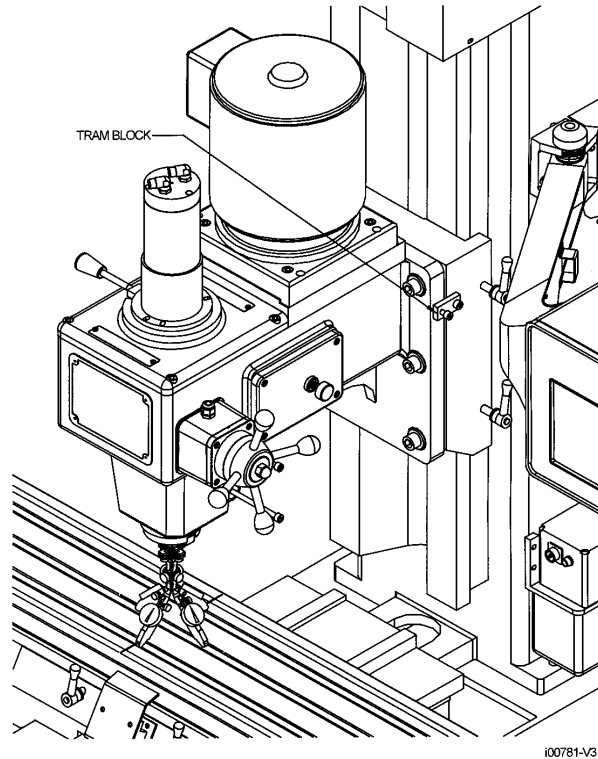

Figure 45
7. If the head is out of tram from side to side then loosen the 6 head bolts. An Allen wrench and breaker bar is provided in the toolbox. There are also 2 tram blocks in the toolbox to help with the alignment of the head. They are bolted to the side of the head, as shown in Figure 45, with 2 M8 SHCS. Then use 2 M8 SHCS as jackscrews to move the head in the direction it needs to go to align the head and adjust the tram with the bolt mounted on the right side of the head.